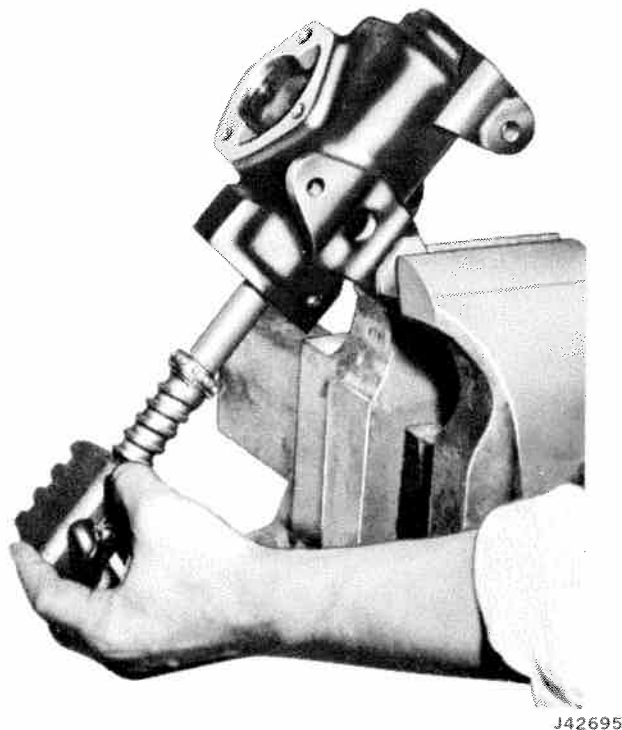

Fig. 11-35 Wormshaft and Ball Nut Removal
(6) Remove worm adjuster nut; remove worm adjuster and lower worm bearing.
(7) If bearing is damaged, pry retainer out with screwdriver. Remove bearing from worm adjuster.
(8) Remove assembled wormshaft, ball nut, and upper worm bearing from the housing (fig. 11-35). Do not allow ball nut to rotate freely to end of worm travel; this could damage ball return guides. Take care not to damage oil seal with worm shaft splines.
(9) Remove upper bearing from shaft.
(10) If oil seals are damaged, pry them out of housing.
(11) Remove three screws securing clamp to ball nut; remove ball guides from nut.
(12) Turn ball nut over and rotate wormshaft back and forth until all balls drop out on a clean cloth (50 balls).
(13) Remove ball nut from shaft.